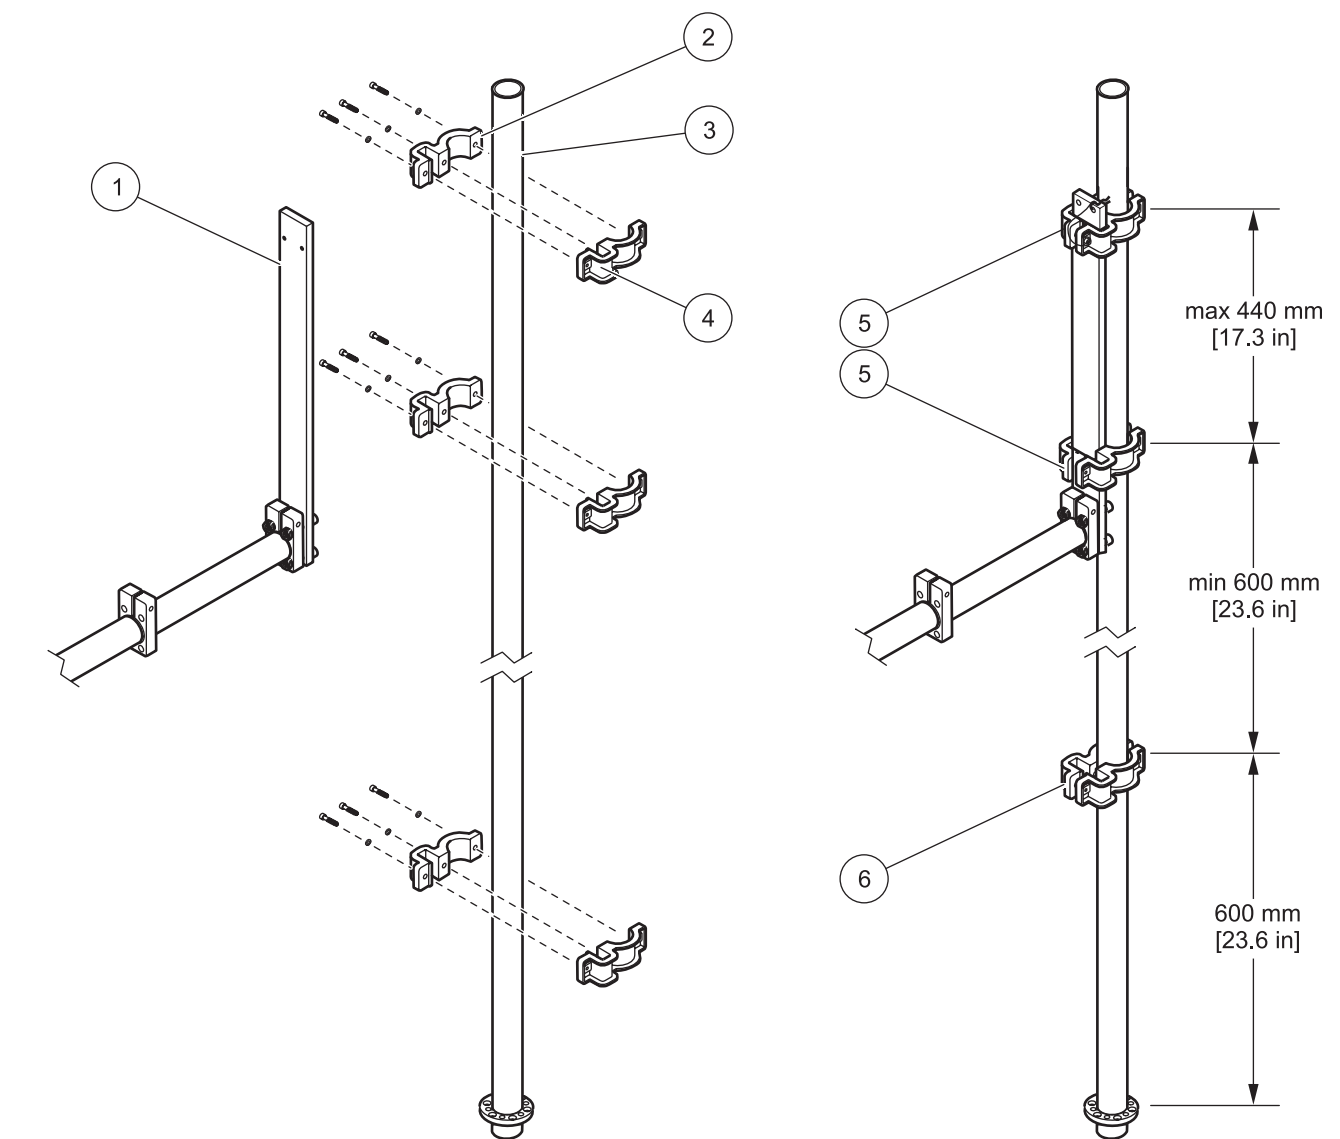

Figure 12 Fitting the mounting pipe with brackets
8. Loosely bolt one of the three threaded brackets to one of the unthreaded brackets using one M5 x 20 mm socket head cap screw and a spring washer. Push the bracket onto the mounting pipe; pay attention to the bottom installation dimension (Figure 12 on page 10). Tighten the screws.